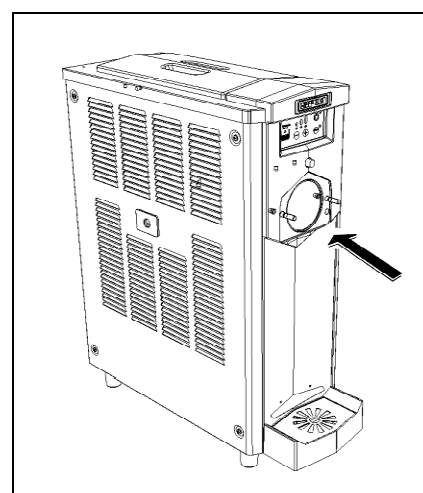

Fig. 26
- Wash the freezing cylinder and top tank thoroughly, removing any remaining product with a clean sponge soaked with the sanitizing solution making sure to completely wet all surfaces for at least 60 seconds. Let air dry. Follow local health ordinances (see figure 26).
- Spray sanitizer on all these surfaces leaving it as suggested by the manufacturer (see fig. 26).